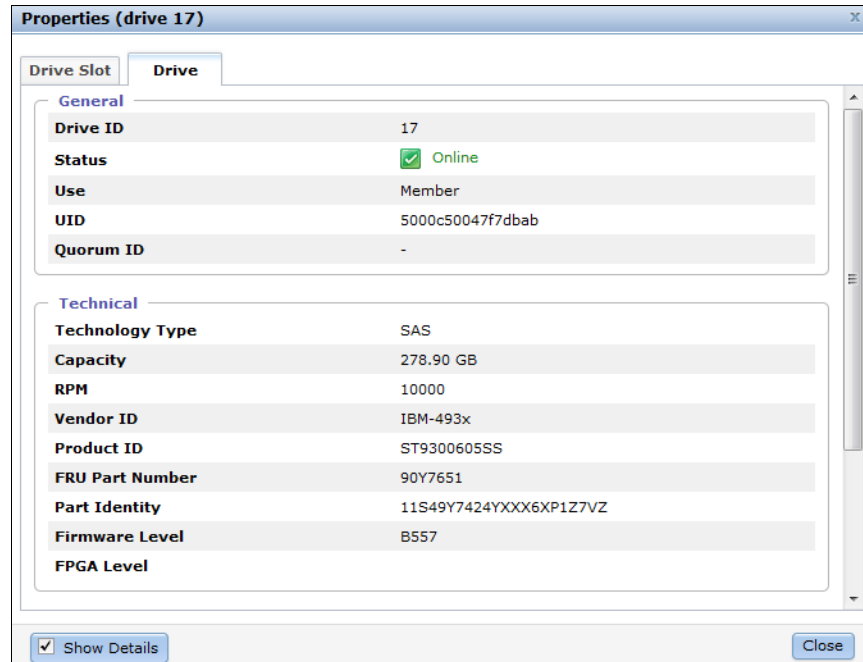

Figure 8-10 Properties tab with details
- If you select the **Show Details** check box, you can discover more detailed information, including vendor ID, FRU Part Number, and ID (Figure 8-10 on page 303).